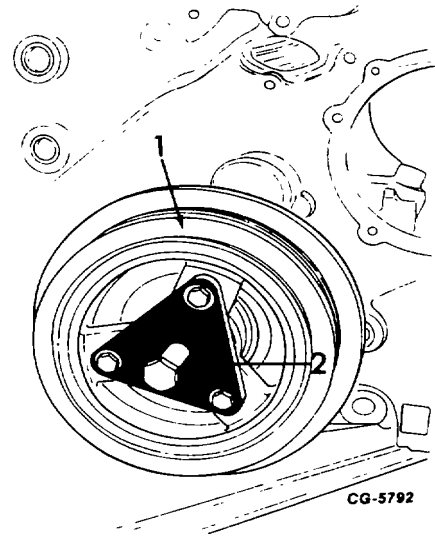

Figure 8. - Puller Installed on Three Hole Vibration Damper
- b. Engines equipped with the Three-Hole Damper (1, Fig. 8) must use the puller 89-10-17 (2) for early Agricultural and Payline Equipment as shown in Fig. 8.